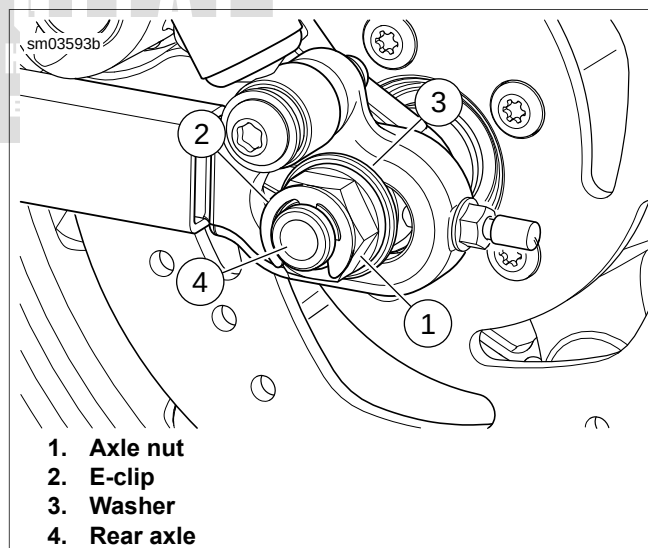

Figure 2-18. Rear Wheel Mounting
4. See Figure 2-18. Remove E-clip (2), axle nut (1) and washer (3).
6. Gently tap end of axle (4) with a soft hammer to loosen. Pull axle free of rear fork assembly.